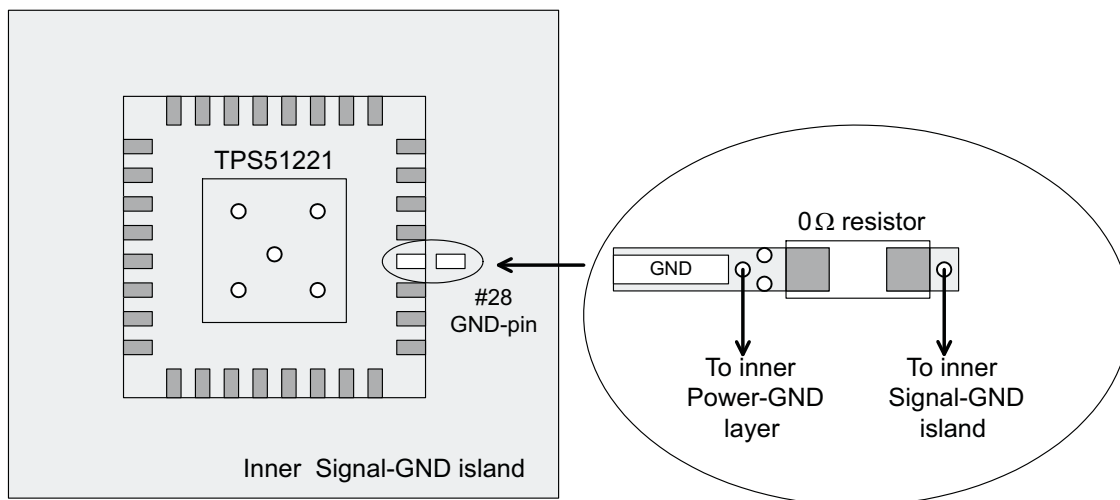

Figure 51. GND Layout Example
- Use signal GND for VREF2 and VREG3 capacitors, RF and VFB resistors and the other sensitive analog components. Placing signal GND island (underneath the IC and fully covered peripheral components) on the internal layer for shielding purpose is recommended. (See Figure 51)
- Use power GND for VREG5, VIN and Vout capacitors and low-side MOSFETs. Power GND and signal GND should be connected near the IC GND terminal. (See Figure 51)